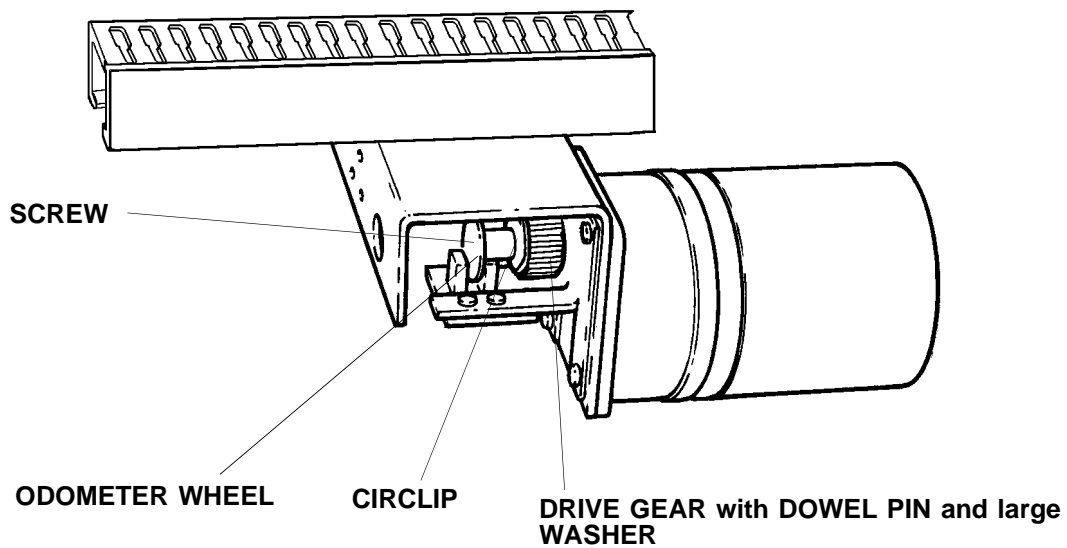

figure 13
4. Take off the CIRCLIP. See figure 13.
5. Take off the large WASHER. See figure 13.